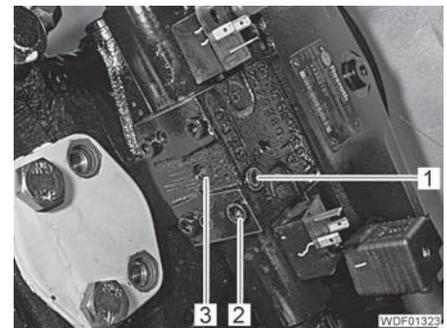

Fig. 446 Solenoid valve attachment
- Unscrew the 4 screws (Fig. 446,2).
- Unscrew the screw (Fig. 446,1).
- Remove the solenoid valve (Fig. 446,3).
- Place the solenoid valve (Fig. 446,3) with new O-rings and a new seal onto the variable displacement pump and press it into place.
- Screw in the screw (Fig. 446,1).
- Screw in the 4 screws (Fig. 446,2).
- Plug the 2 connectors (Fig. 446,1) onto the connections on the solenoid valve and secure with 1 screw for each.